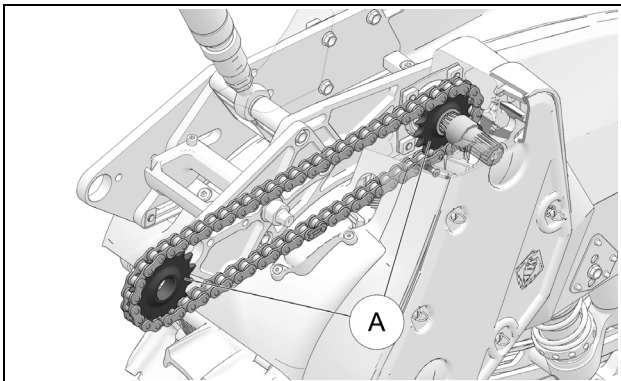

Figure 47
Inspect the chain drive sprockets (A) for wear. If the chain is set to the required tension (3-6 mm [1/8-1/4 in.] deflection) but misses or skips over some of the driving teeth, the sprockets must be replaced. See Figure 47.